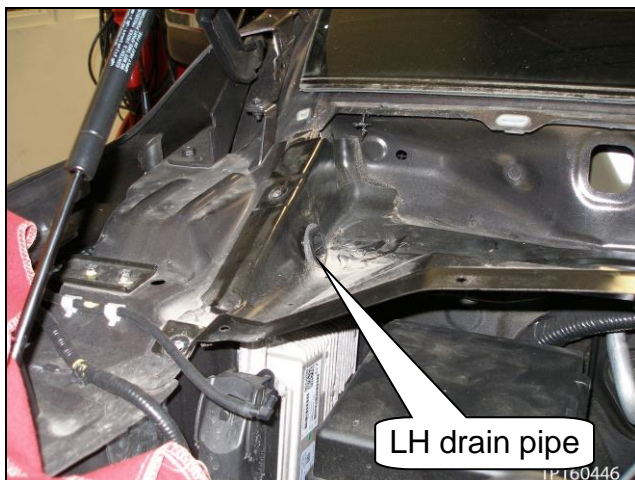

Figure 112
a. Install the cowl top extension with the eight (8) bolts, and then install both drain pipes (see Figure 110, # 3 & 5, and Figure 112 and 113).